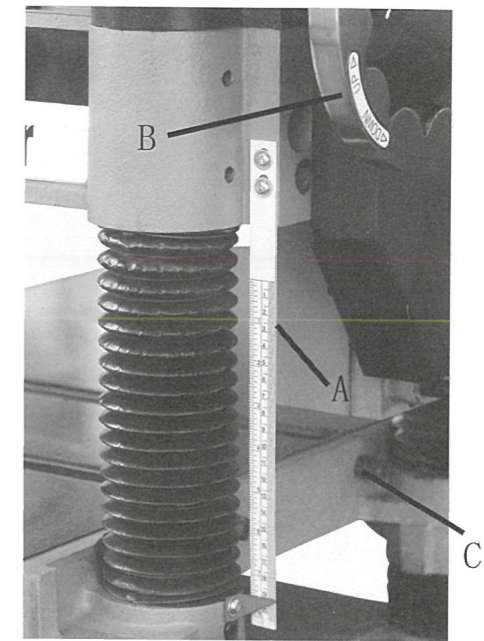

Fig. 15
The cutting depth scale is a combination inch/metric scale (A), Fig.15, cutting range from 0 to 8" (204mm). The distance of upward or downward movement is controlled by handwheel (B) Fig.15, for one revolution is 0.059" (1.5mm). Before moving table upward or downward, loosen the lock nuts (C) as shown in Fig. 15. After choosing the proper position, tighten the lock nuts (C).